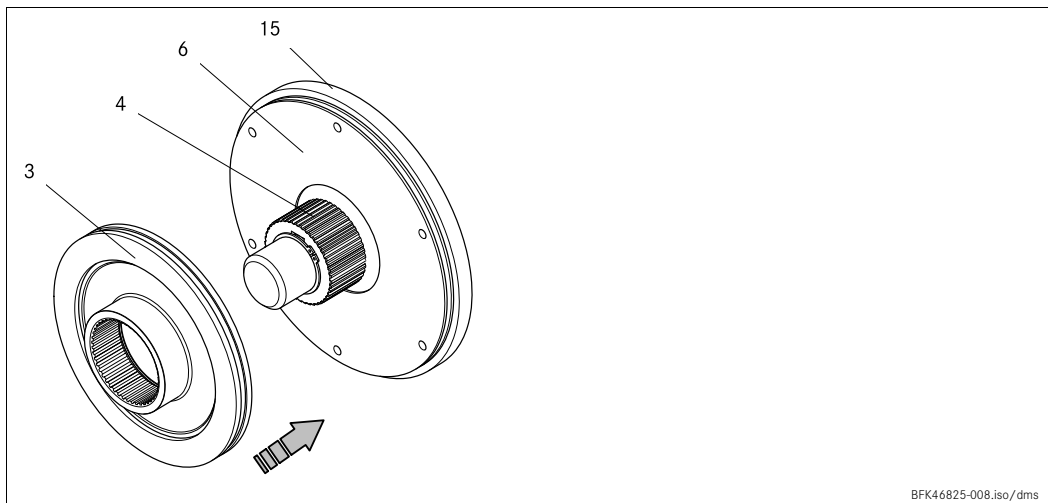

Fig. 7 Mounting the brake
1. Push the rotor (3) onto the hub (4) and check whether it can be moved by hand (Fig. 7).